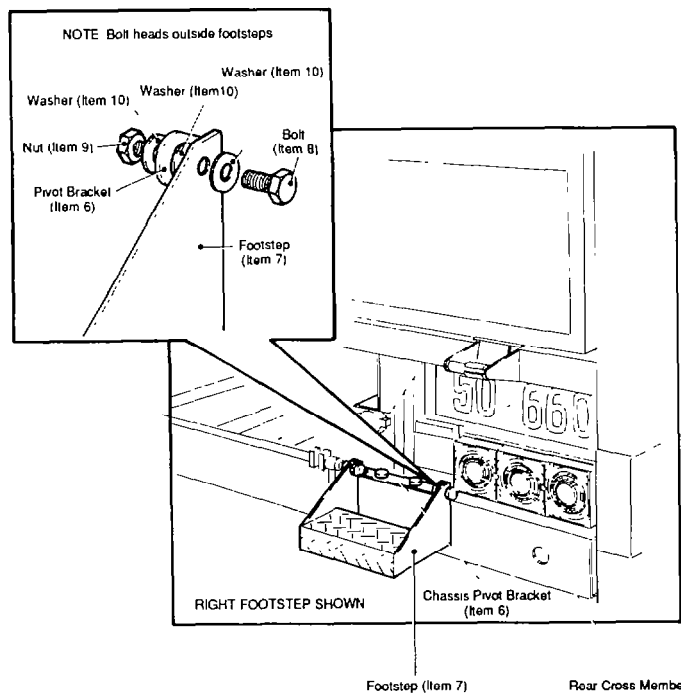

FIG 2 - REAR LOWER TROOP FOOTSTEP MOUNTING
- e. Fit the chassis pivot brackets (item 6) to the footsteps (item 7) using screws, nuts and washers (items 8, 9 and 10), as shown in Fig 2, and then fit the assemblies to the rear cross member, adjacent to the rear lights, using screws and nuts (items 8 and 9), as shown in Fig 2.